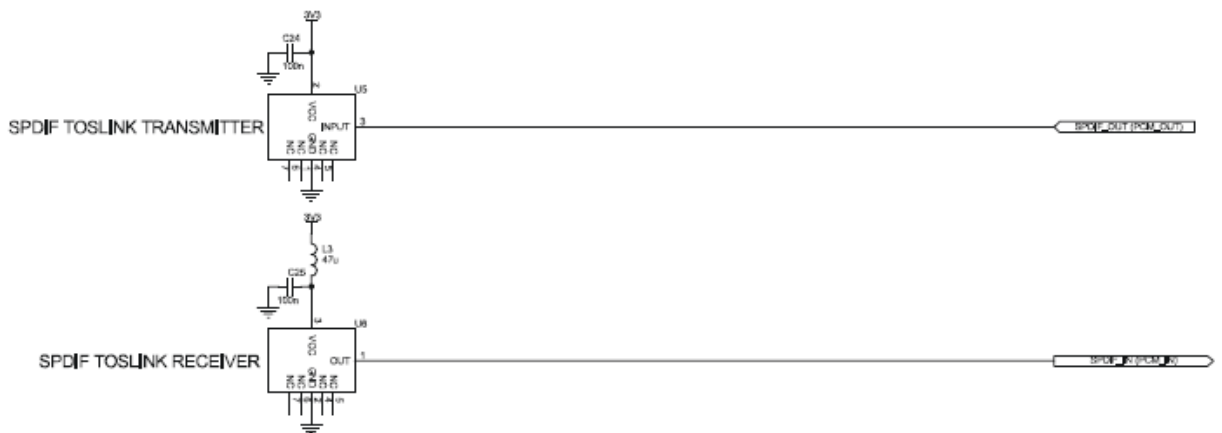

Figure 9: Example Circuit for SPDIF Interface (Optical)
- An optical link that uses Toslink optical components, see Figure 9.